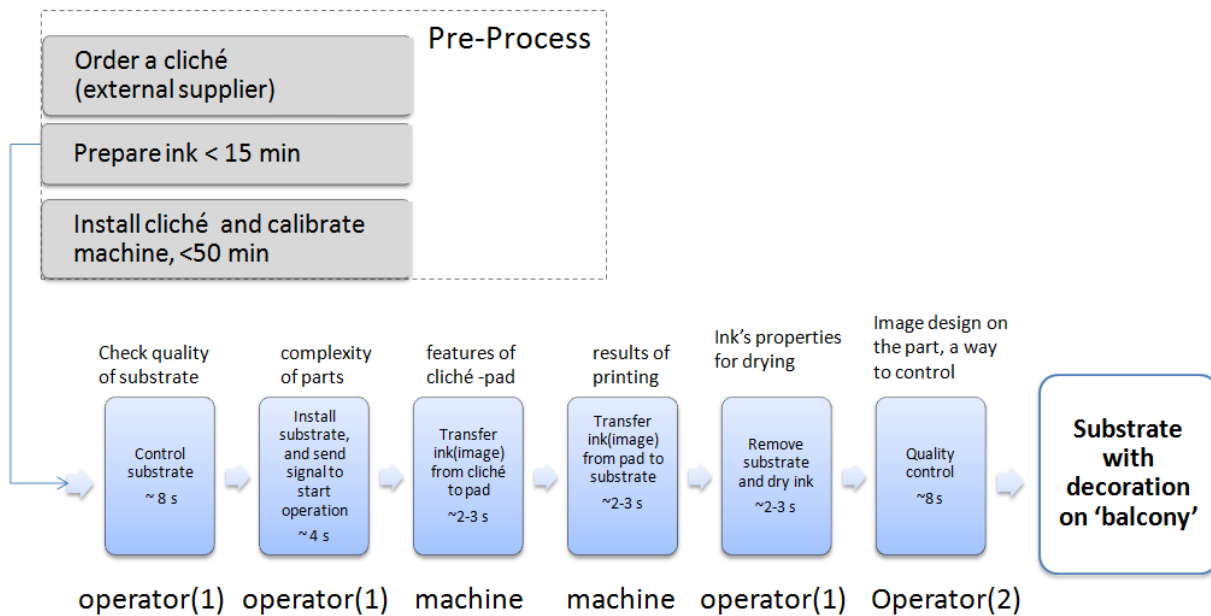

Figure 4. Functional description of the semi-automatic pad-printing process.
- Semi-automatic, it is a process where at least one operator is needed in order to transfer the image to the substrate. As example, Figure 4 describes the functional model of semi-automatic process, it is possible identify in several stages that an operator is required.